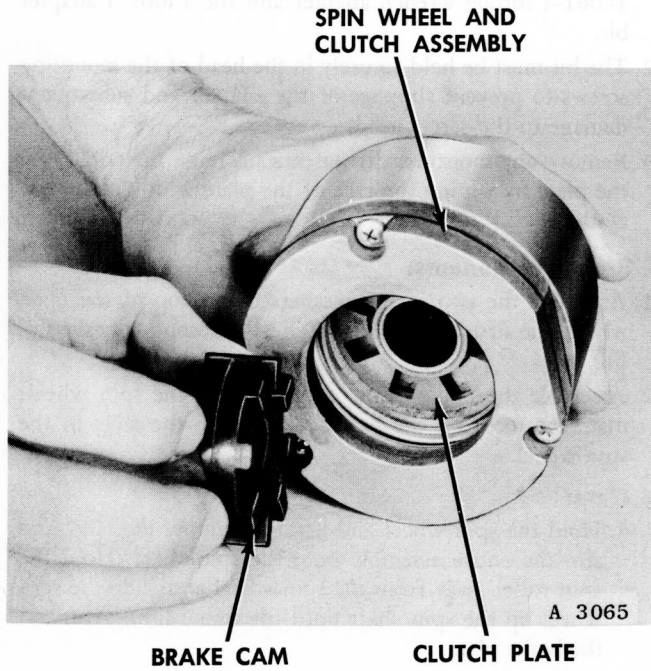

Figure 122
2. Install the spin brake cam so that the rectangular teeth on the cam fit in the slots of the clutch lining, Fig. 122.